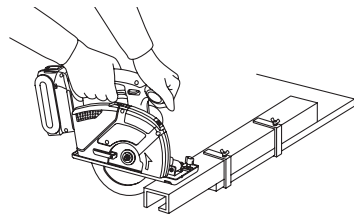
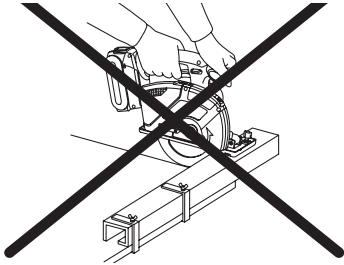

Fig. 12
Fig. 13
1. Place the wider part of the shoe on the part of the work piece that is solidly supported (Fig. 12), never on the section that will fall off when the cut is made (Fig. 13). Hold the tool firmly to prevent loss of control. Working carelessly can cause severe personal injury.
Figure 12 shows proper cutting position. Note that hands are kept away from the cutting area.